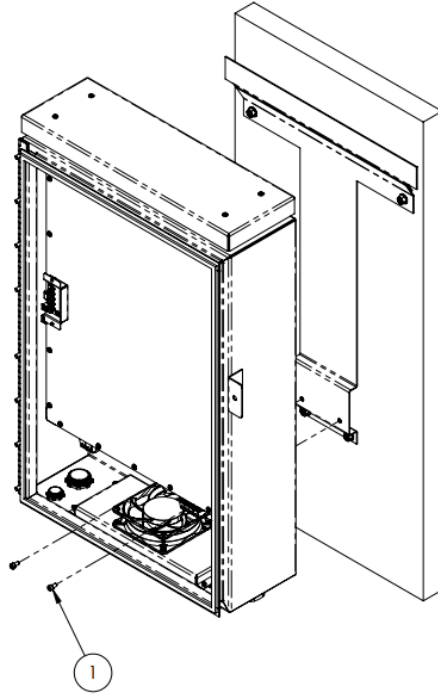

Figure 14 - Lift the PCS onto the Mounting Bracket and Secure with Locking Bolts
- c. Using two people, lift the PCS by the bottom of each side and hang the PCS on the mounting bracket as shown in Figure 14. Open the front door and install the provided locking bolts (1) (Oztek p/n 920565) through the back of the cabinet and tighten to 4.3 Nm.